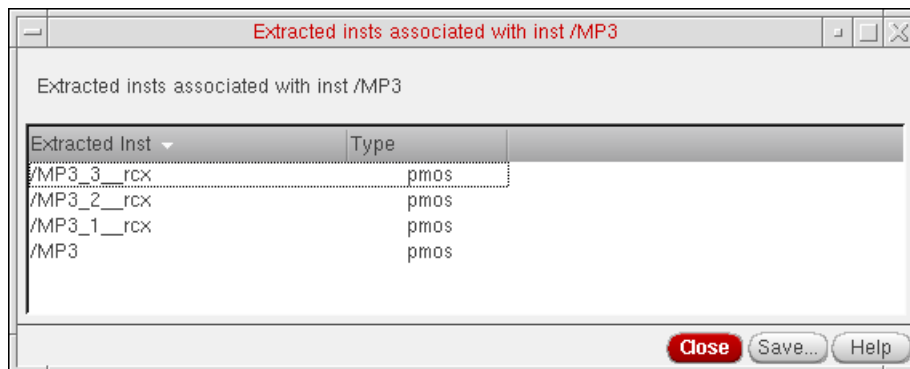

Figure 1-20 Extracted instances report form
- probe from a design instance or net in the current schematic view to extracted instances in the extracted view. The probe performed will raise the Extracted insts associated with... form (see Figure 1-20 on page 68) from where you can pan and zoom to selected instances.